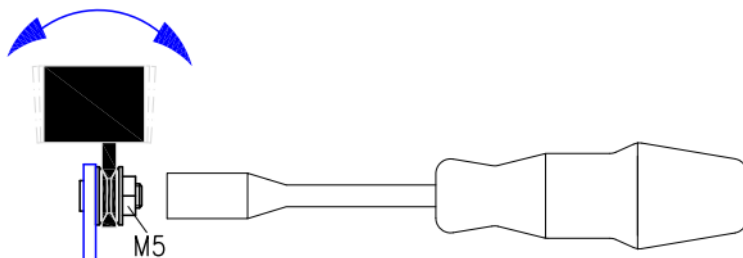

Fig. 3: Aligning the height detection light curtain
| 10   | Align the transmitter and receiver array according to the "Manufacturer Information" chapter4.Alternating between the transmitter and receiver arrays, determine the outermost boundaries of uninterrupted light contact, then adjust it to the centre position. The cross recessed pan head sheet-metal screw (item 11) prevents a change of the vertical position during this process.Securely tighten the nuts M5 (item 9). | See Fig. 3See Chapter 4When installing the side panels, ensure that the transmitter and receiver array are not moved.                                                                                                                                                                                                                                                                                                                                                                                                                                                                                                                                                                                                                                                                                                                                                                                                                                                                                                                                                                    |